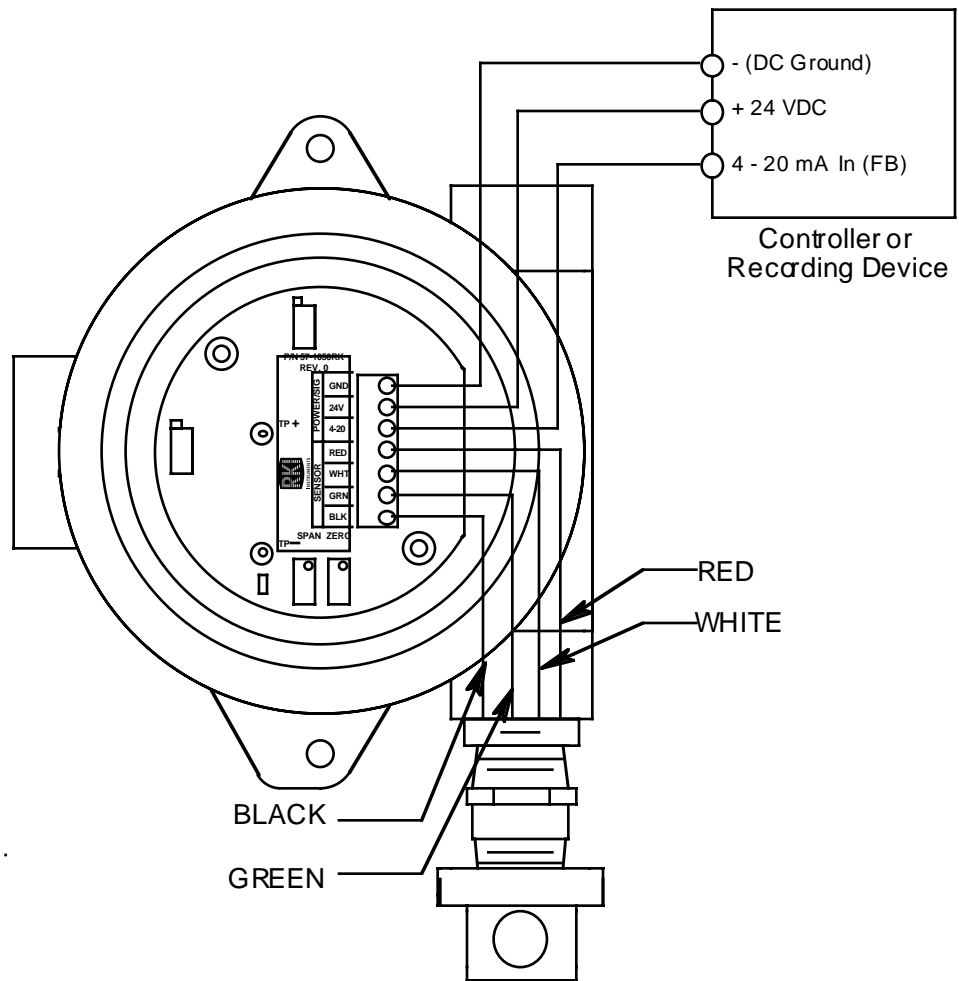

Figure 3: Wiring the Combustible Gas Transmitter to the Pioneer Gas Monitor
2. Verify that the detector leads are wired to the amplifier's interconnect terminal strip. If necessary, connect the detector leads to the interconnect terminal strip as shown in Figure 3.
4. Connect the three wires to the interconnect terminal strip as follows (see Figure 3.)
7. Connect the wires to the appropriate terminals at the controller. Figure 3 shows generic connections. See the controller instruction manual for specific wiring connections.
6. Connect the detector leads to the interconnect terminal strip as shown in Table 2 and Figure 3.